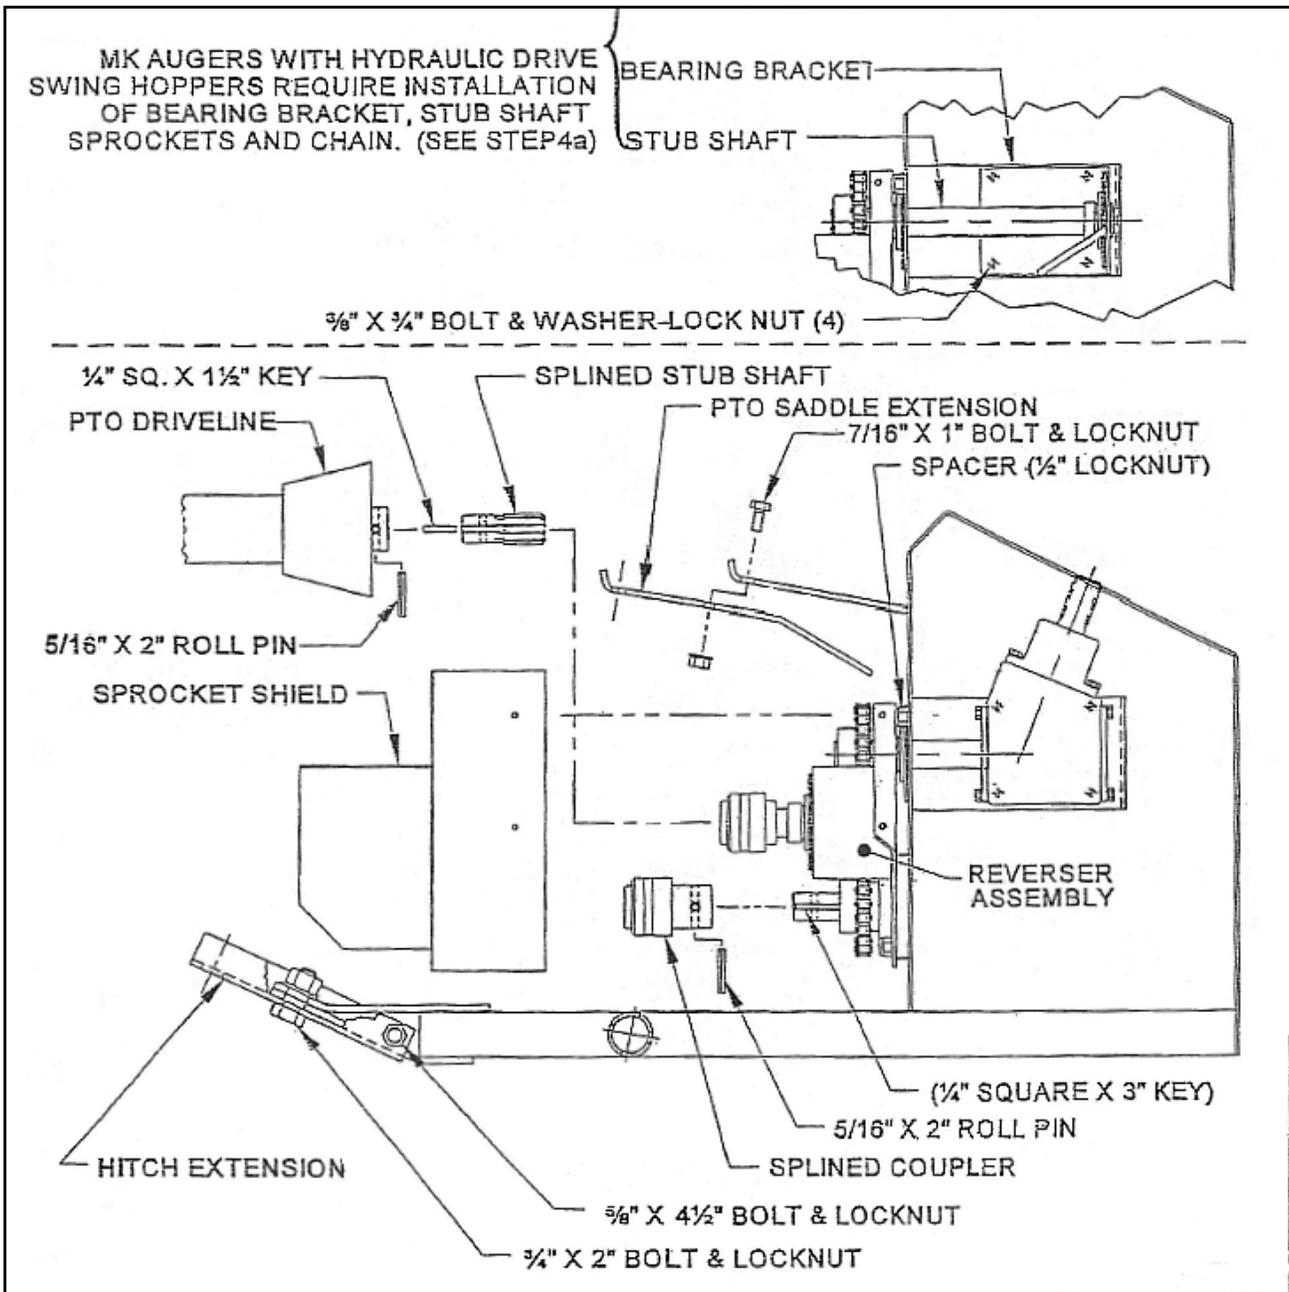

Figure 2
6. For models with a hydraulic driven swinghopper, install bearing bracket, stub shaft, sprockets, and chain to the gearbox mounting bracket inside boot with four 3/8" x 3/4" bolts and washer-lock nuts (Figure 2).
8. Install the splined coupler onto the lower flighting shaft and square key. Secure with new 5/16" x 2" roll pin (Figure 2).
10. Attach PTO driveline saddle extension with one 7/16" x 1" bolt and locknut as shown in Figure 2.